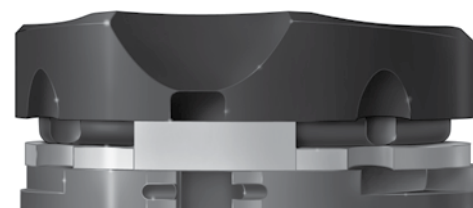

Figure 60
Step 2: Place the PTS trial onto the Optetrak Logic tibial tray trial. Place the Optetrak Logic tibial insert trial onto the Optetrak Logic PTS trial (Figure 60). Proceed with the trial reduction to assess stability. If the flexion and extension gaps are loose, select the next thickness insert trial and re-assess. Once the flexion and extension gaps have been properly balanced after the trial reduction, proceed to the final preparation of the tibia.